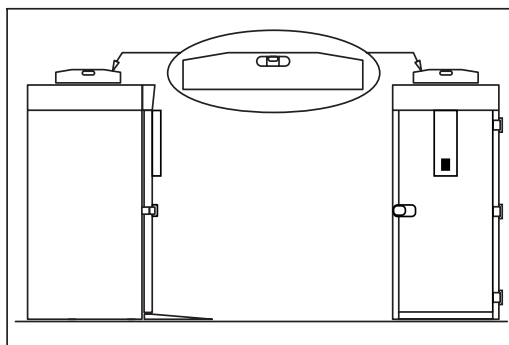

Fig.5
- position the blast chiller using a level (Fig. 5)